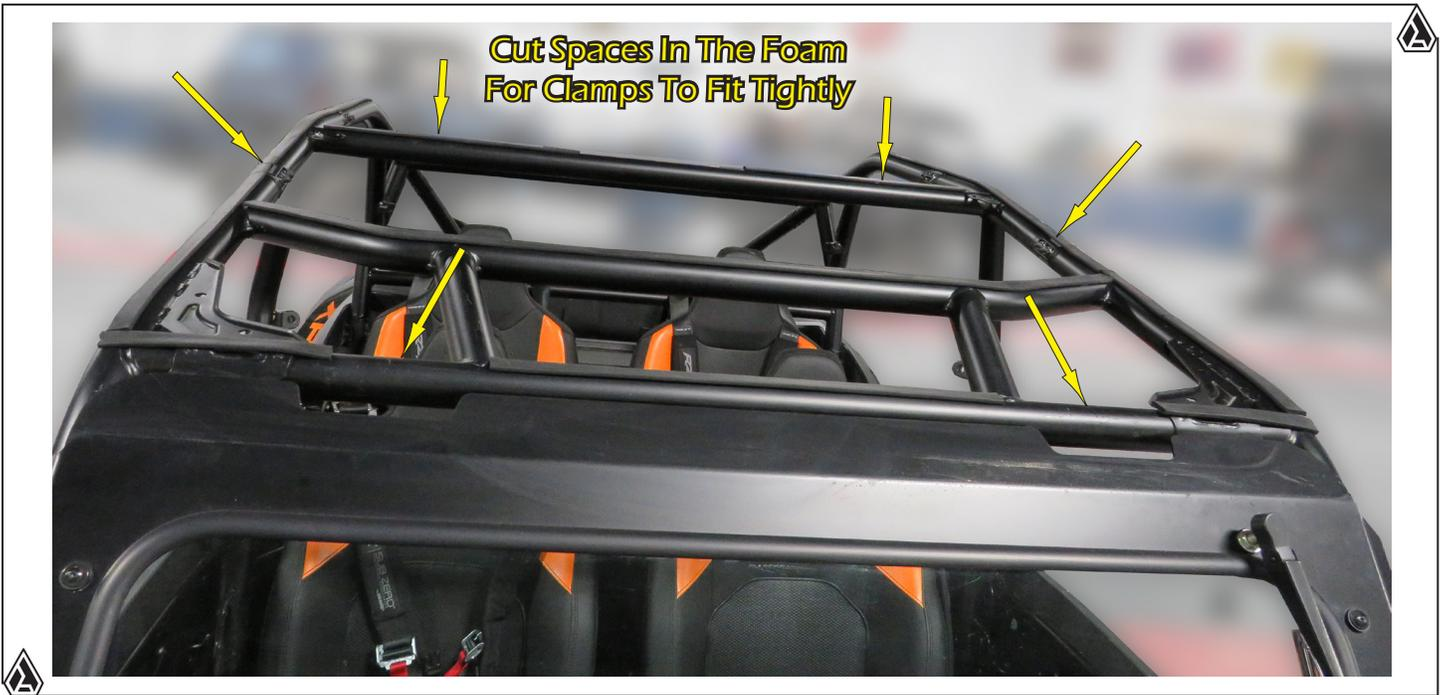

FIG. 10
13. Before installing the roof onto your machine, you will need to install the clamps that hold it in place next. To do this, first install the adhesive backed rubber sealing on top of frame where roof will sit as shown in **Fig. 10**. set the assembled roof on top the of the vehicle where it would be installed and mark on the foam stripping you applied to the top of the bars where the clamps would go according to the mounting holes in the roof. Then cut the foam leaving spaces for the clamps to fit tightly around the bars. See in **Fig. 10**.